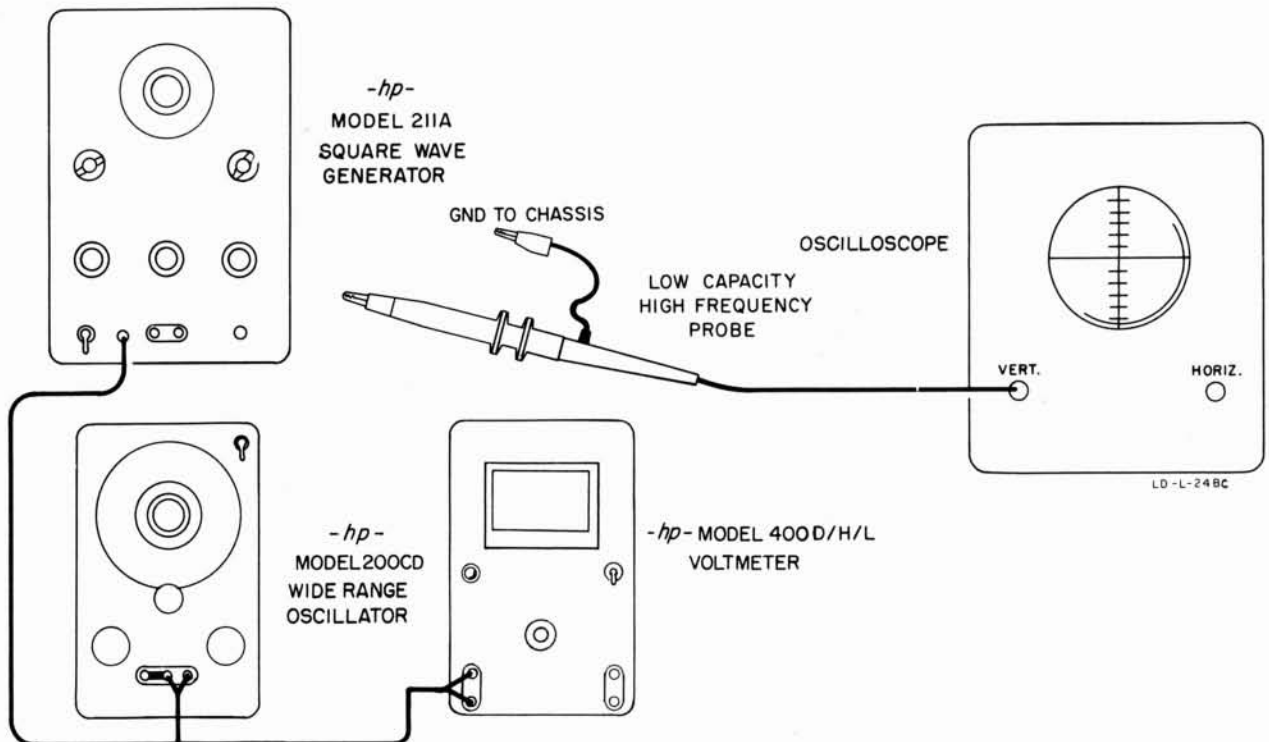

Figure 4-4. Test Setup for Sync Sensitivity Adjustment
b. Connect oscilloscope through a low-capacity probe to pin 6 of V1. See figure 4-4.